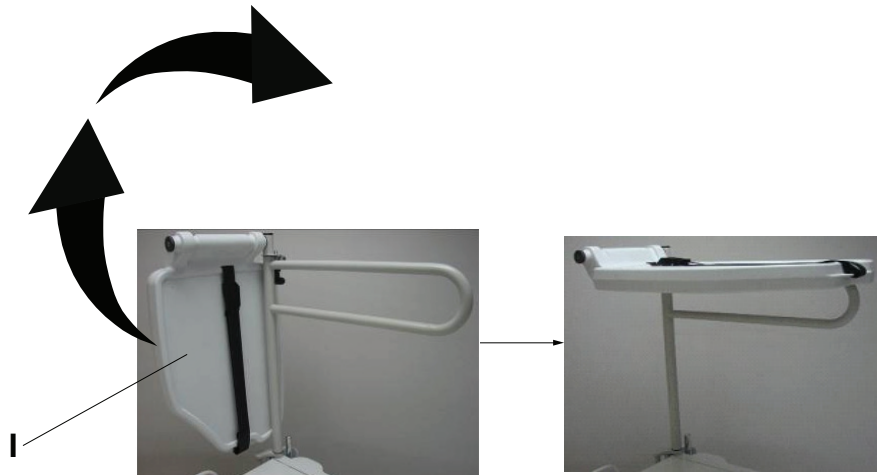

Figure 99: Flipping up the monitor tray
3. Grasp the bottom of the monitor tray and flip it up onto the tray support pole (I) (Figure 99 on page 102).